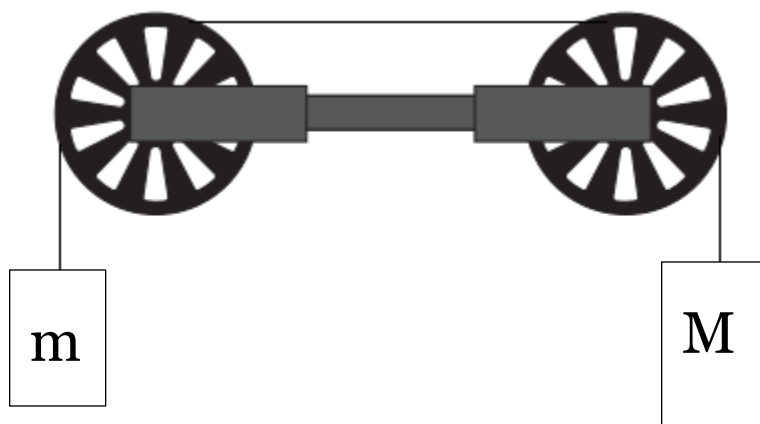

Figure 2. Schematic representation of the Atwood Machine. (Image source: PASCO)
5. Hang mass hangers from each end of the string, and hang the string over the pulleys, as shown in Figure 2.